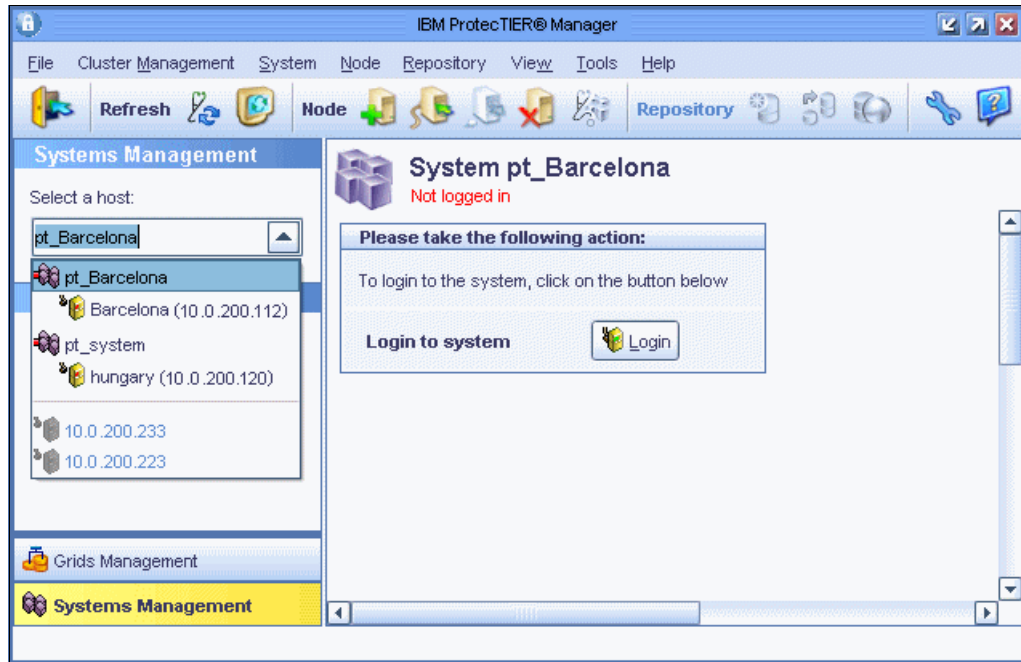

Figure 5-61 Select the ProtecTIER system
1. Select the ProtecTIER system, as shown in Figure 5-61.